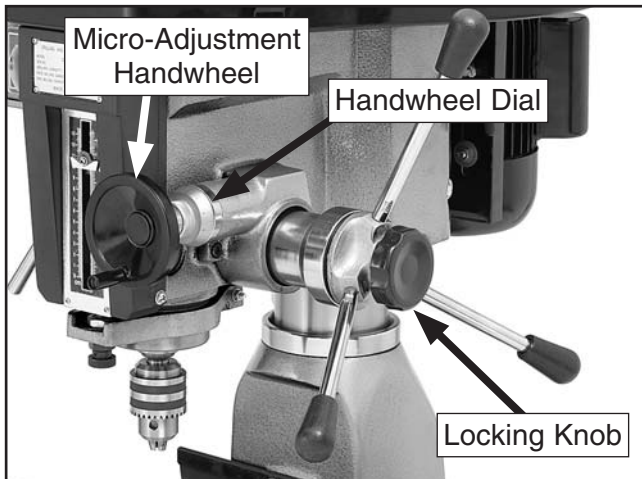

Figure 22. Micro-adjustment handwheel.
1. Tighten the locking knob located on the center of the hub for the downfeed levers (**Figure 22**). This transfers control from the downfeed levers to the micro-adjustment handwheel.